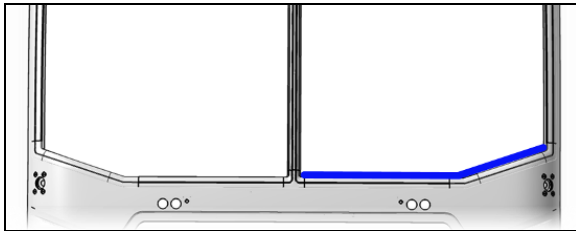

FIGURE 65
1. Spray the groove at the bottom of the rubber extrusion with soapy water to ease windshield insertion (Figure 65).